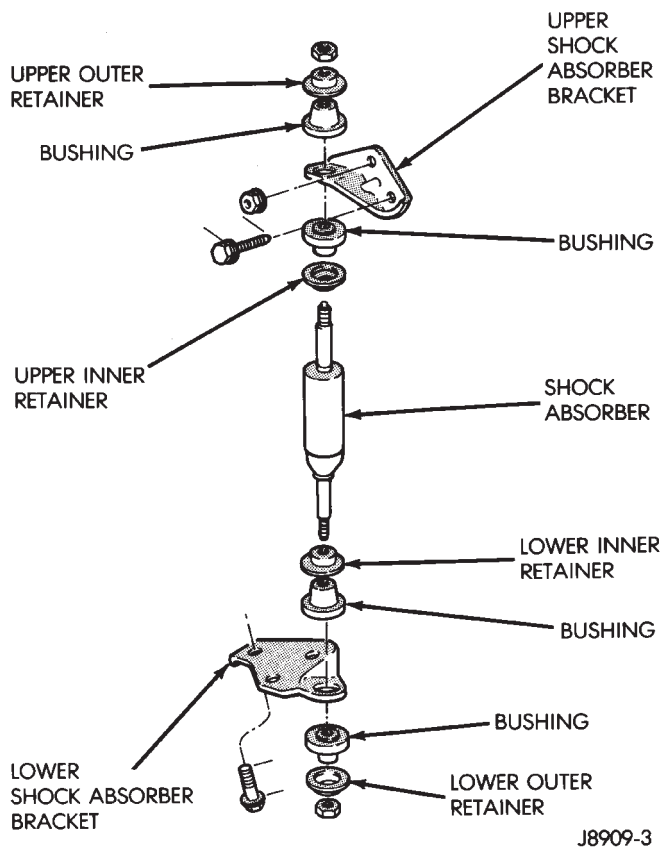

Fig. 14 Engine Damper
- (1) Disconnect negative cable from battery.
- (2) Remove the top and bottom damper nuts (Fig. 14).
- (3) Remove the outer retainers and bushings (Fig. 14).
- (4) Remove the top damper bracket nut and bolts (Fig. 14).
- (5) Remove the bracket, inner retainers, bushings and the damper (Fig. 14).